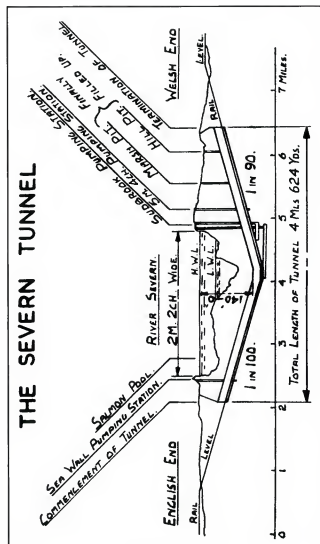

Figure 1
**Figure 1** is a diagram of the tunnel, **figure 2** is of one of the pumps. **Figure 3** is of the beams in the main pump house, each one weighing 20 tons! **Figure 4** is a fascinating shot of the valve gear and parallel linkages and **figure 5** is the fan engine, a much later design with drop valves.